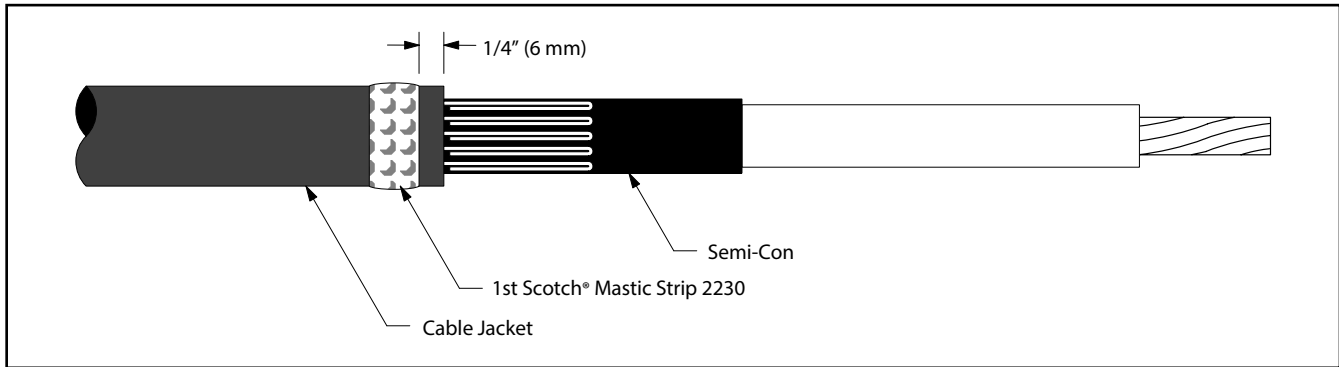

Figure 10
- 8.1 Select a Scotch® Mastic Strip 2230 from kit and remove white release liners. Using light tension, apply a **SINGLE WRAP** of mastic around the cable jacket 1/4" (6 mm) from cut edge (Figure 10). Cut off excess.